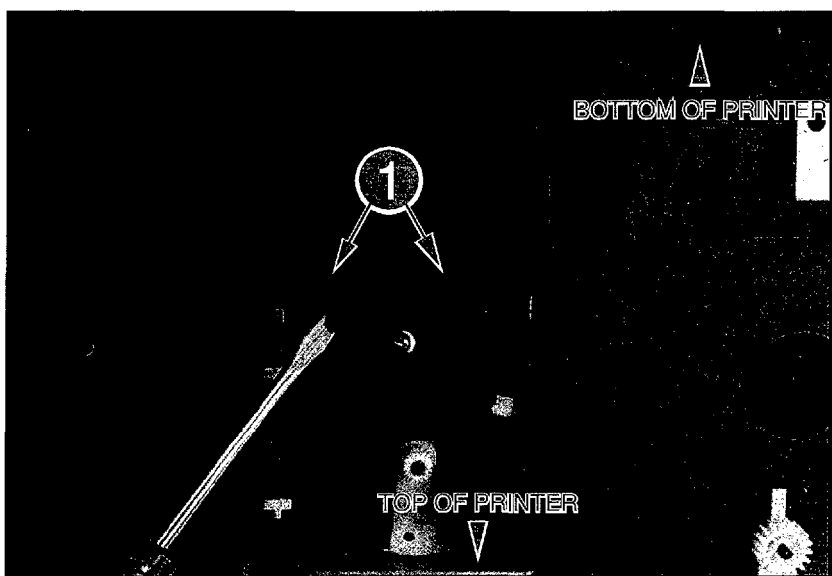

Figure 6-49 Releasing the Side Tabs (DC Controller/Scanner Connector)
3. From the left side of the printer, release pressure on the two tabs (Figure 6-49, callout 1).